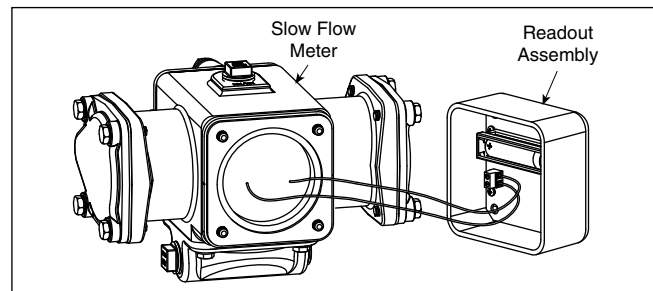

Figure 6 - Mounting the Intrinsically Safe Readout to the Meter Without Terminal (Direct Mount)
4. For direct mount (Figure 6):